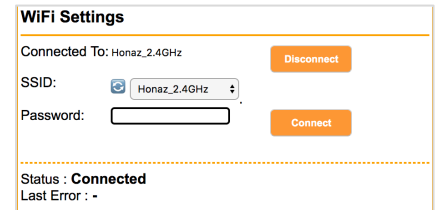

Figure 4. Hx Manager Wi Fi Setting
- When connected (see connection status in Fig. 4), change Wi Fi connection to Access Point (or Company Wi Fi).